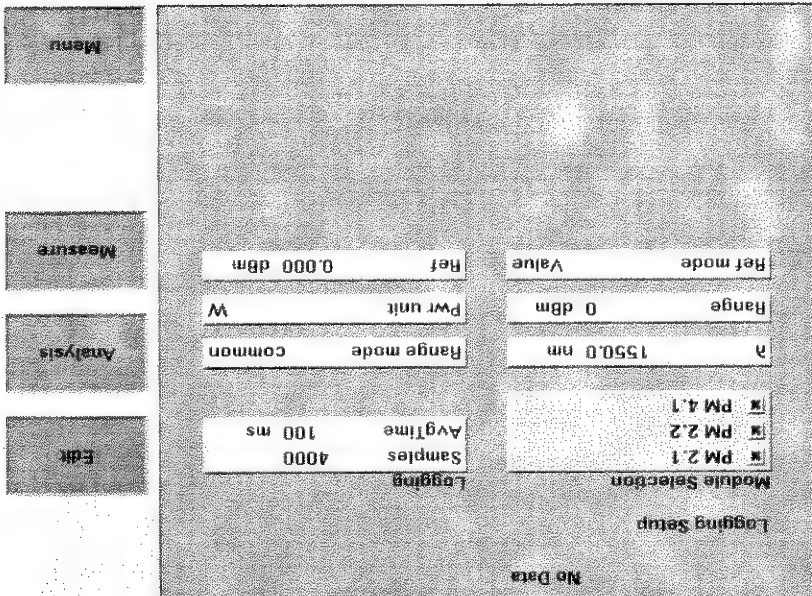
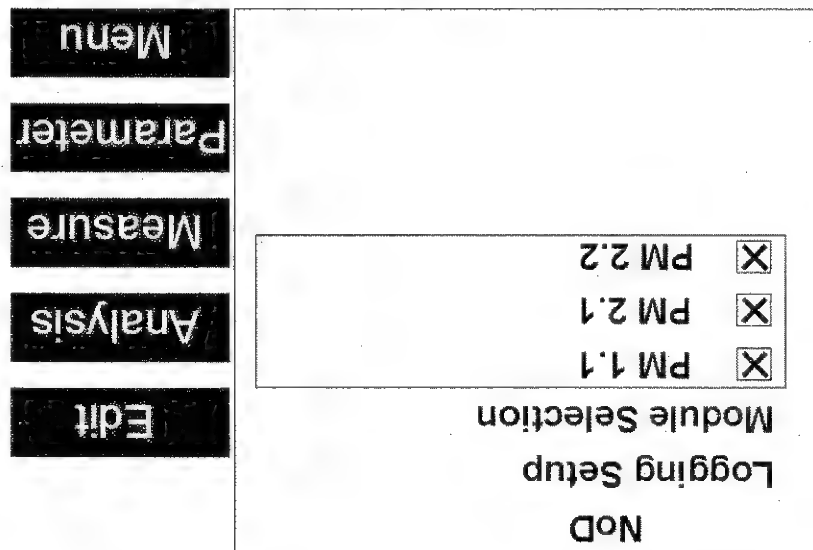

Figure 114 The HP 8164A Logging Setup Screen
Figure 115 The HP 8163A Logging Modules Setup Screen
- 2 Move to <Logging> and press *Enter*. The HP 8164A Logging Setup Screen, as shown in Figure 114, or the HP 8163A Logging Modules Setup Screen, as shown in Figure 115, appears depending on the mainframe instrument you are using.
If you are using the HP 8164A Lightwave Multimeter, you may set all Power meter parameters from the Logging Setup Screen, see Figure 114.